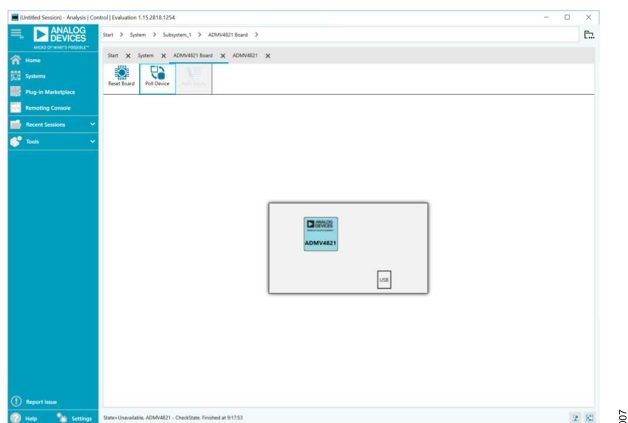

Figure 7. ADMV4821-EVALZ Plugin View
4. The **ADMV4821 Board** tab opens. Double click the **ADMV4821** icon in the middle of the window (see Figure 7).